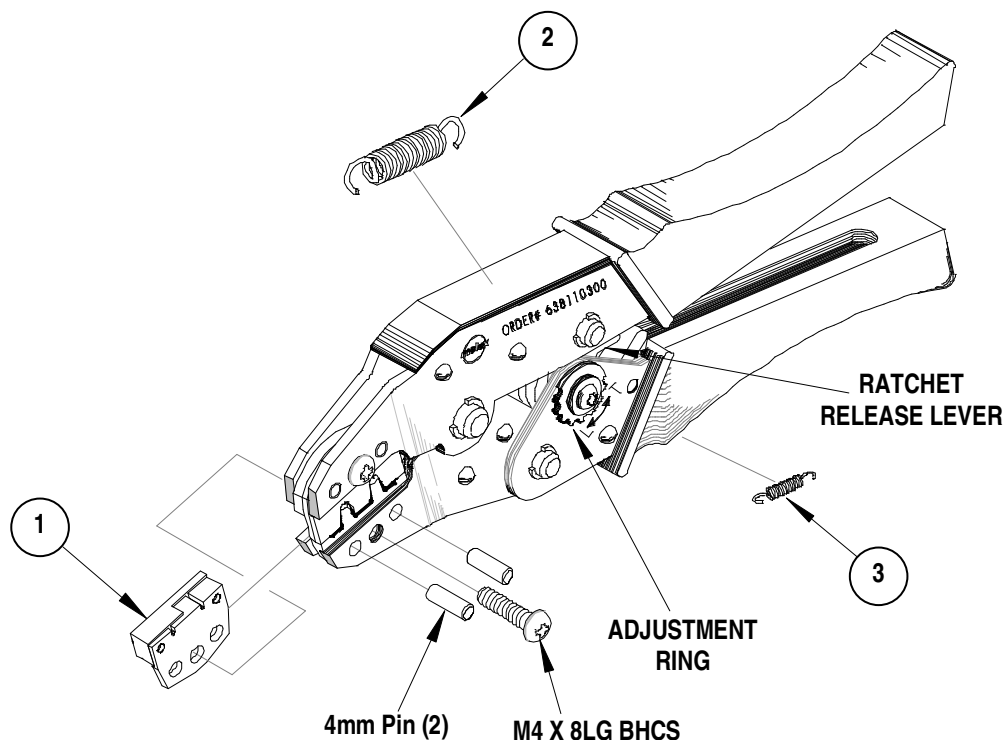

Figure 4
4. Finish closing the hand tool until the ratchet releases. See Figure 4.
Should this tool ever become stuck or jammed in a partially closed position, **Do Not force the handles open or closed**. The tool will open easily by lifting the ratchet release lever. See Figure 4.
How to Adjust Tool Crimp Force (See Figure 4)